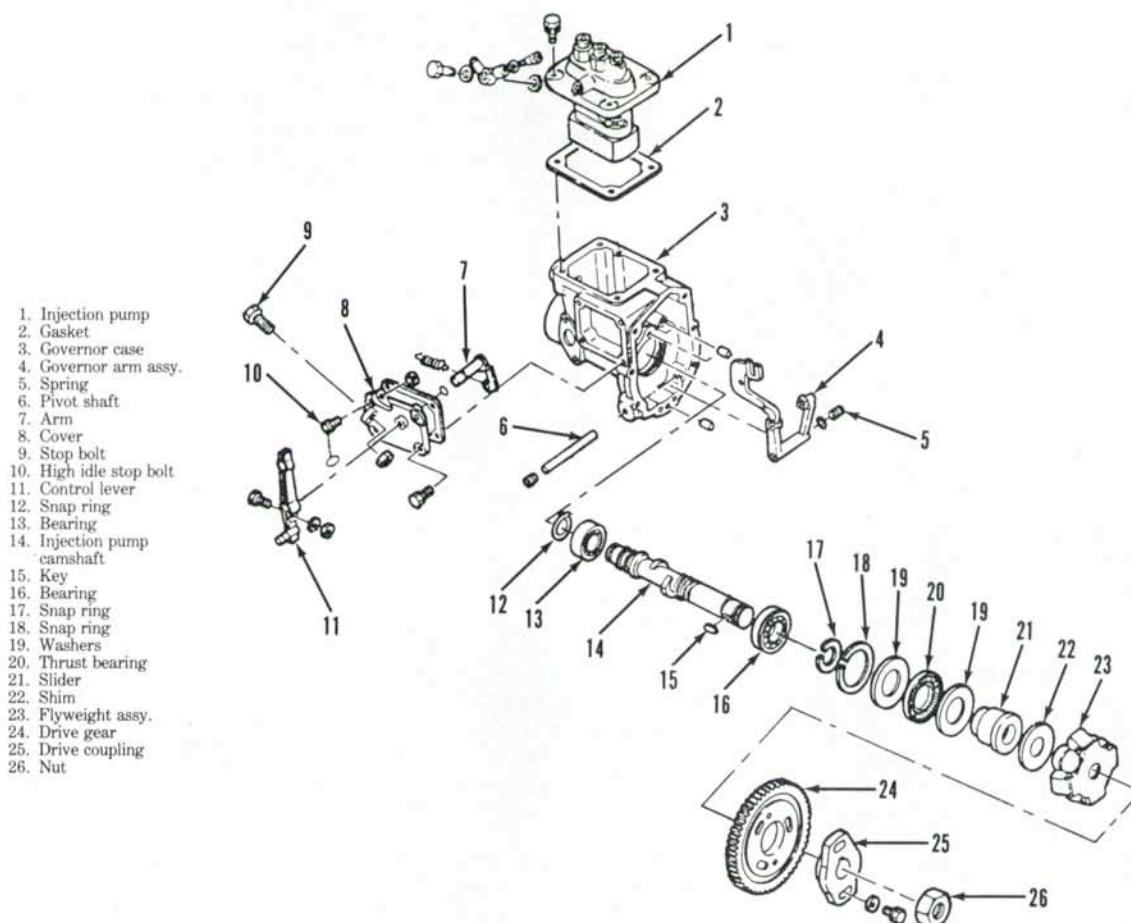

Fig. 138 — Exploded view of governor assembly used on 1510 models.
72. The governor flyweights and related components are located on the end of injection pump camshaft. The governor linkage is located in governor housing. To service governor linkage or flyweights, refer to paragraph 60 for removal of injection pump and governor housing. Refer to Fig. 138 for an exploded view of governor components.